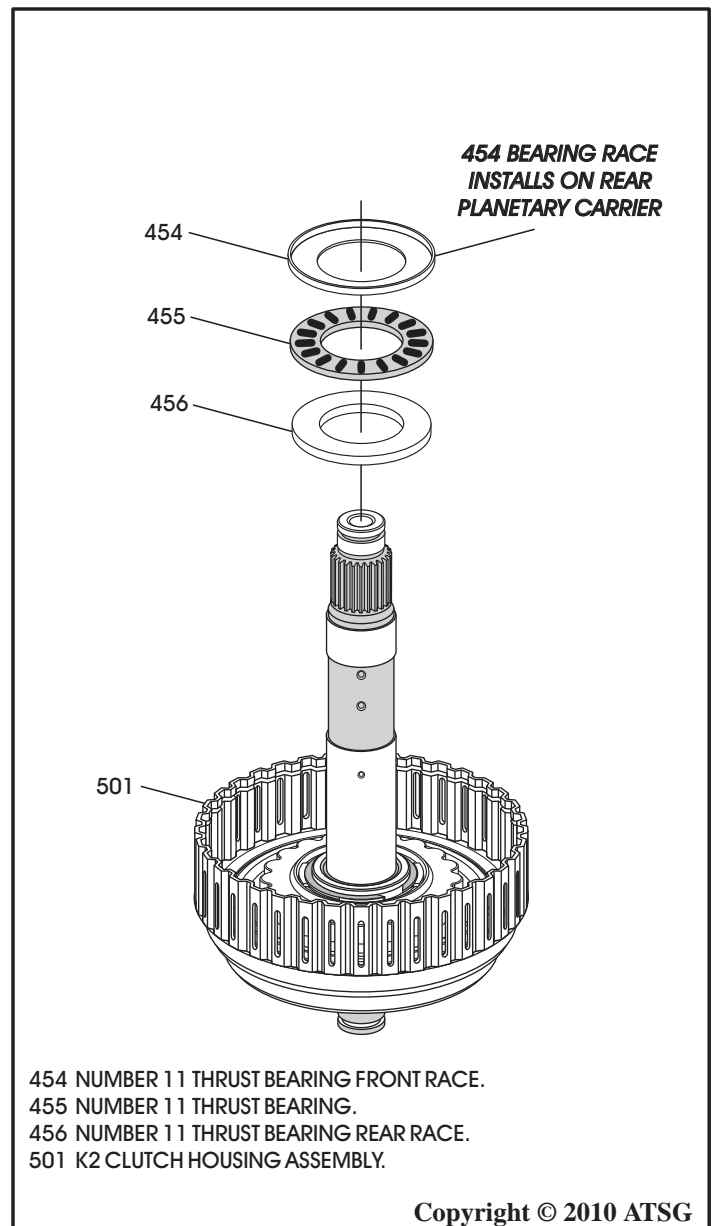

Figure 94
12. Install the number 11 thrust bearing rear race and the number 11 thrust bearing, as shown in Figure 94, and retain with Trans-Jel®.